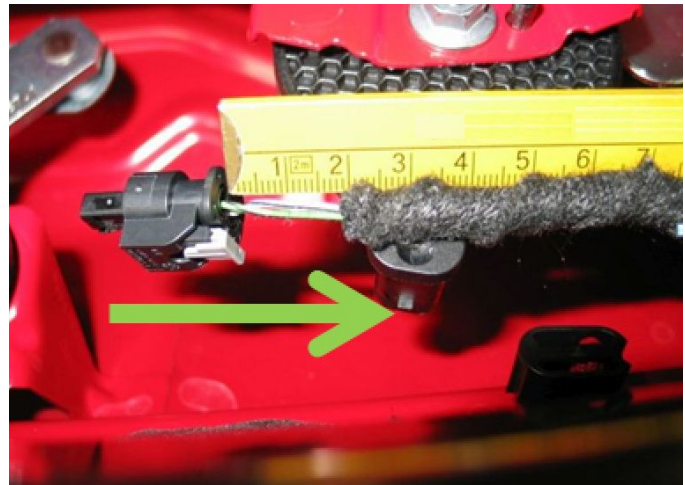

Figure 4. Direction in which to start wrapping the tape (arrow).
3. Wrap fleece tape (part number D 373125A2) from approximately 2 cm away from the connector housing to the exit of the main wiring harness (Figure 4).